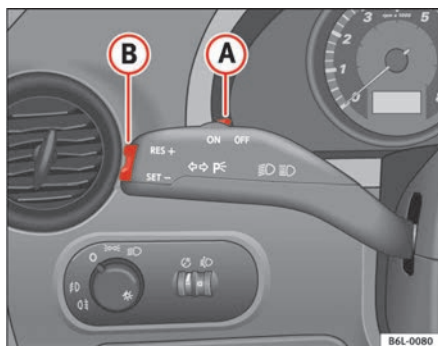

Fig. 104 Turn signal and main beam headlight lever switch and rocker switch for the cruise control
- Press the upper part **RES** of the rocker switch ⇒ fig. 104 **(B)** to increase the speed. The vehicle will continue to accelerate for as long as you keep the rocker switch pressed. When you release the switch, the new speed is stored.
Control of the set speed is switched off if you reduce speed by depressing the brake pedal. Reactivate the control by pressing once on the upper part of the rocker switch **RES+** ⇒ fig. 104 **(B)**.